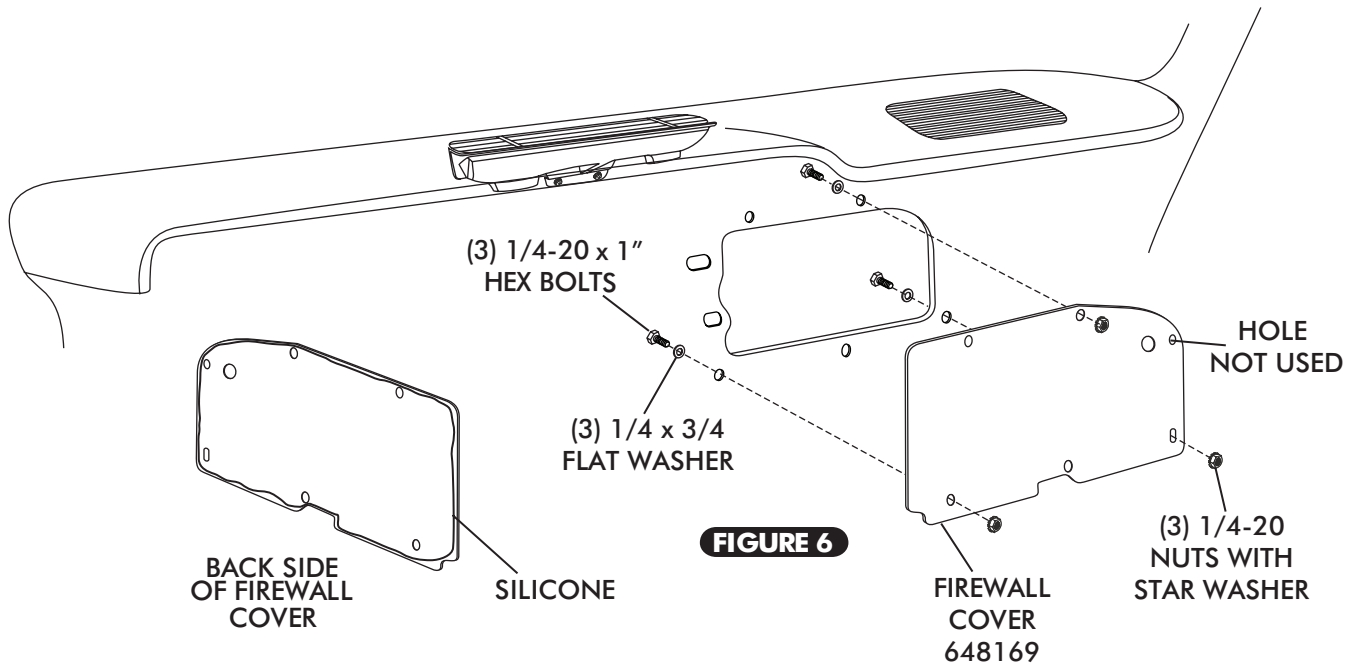

FIGURE 6
- APPLY A 1/4" BEAD OF SILICONE AROUND THE BACK SIDE OF THE FIREWALL COVER AS SHOWN IN FIGURE 6, BELOW.
- FROM INSIDE THE CAR, INSTALL FIREWALL COVER ON FIREWALL USING (3) 1/4-20 x 1" HEX BOLTS, FLAT WASHERS AND 1/4-20 NUT WITH STAR WASHER, SEE FIGURE 6, BELOW.